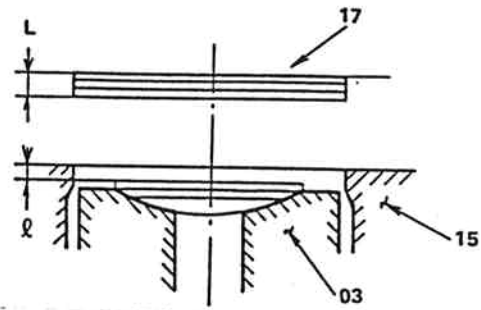

Fig.10 Checking Spring Deflection
9) Place the cylinder block subassembly with the front cover down. Place valve plate (12) on the cylinder block subassembly, and measure the dimension \varnothing from the upper face of casing (15) to the upper face of the valve plate (see Figure 10). Measure also the dimension L of the protrusion of valve cover (17). Then, confirm that dimension $L - \varnothing$ (amount of spring (06) deflection) is in the allowable value shown in Table 7-1. If the dimension is out of the specified value, adjust the spring shims.